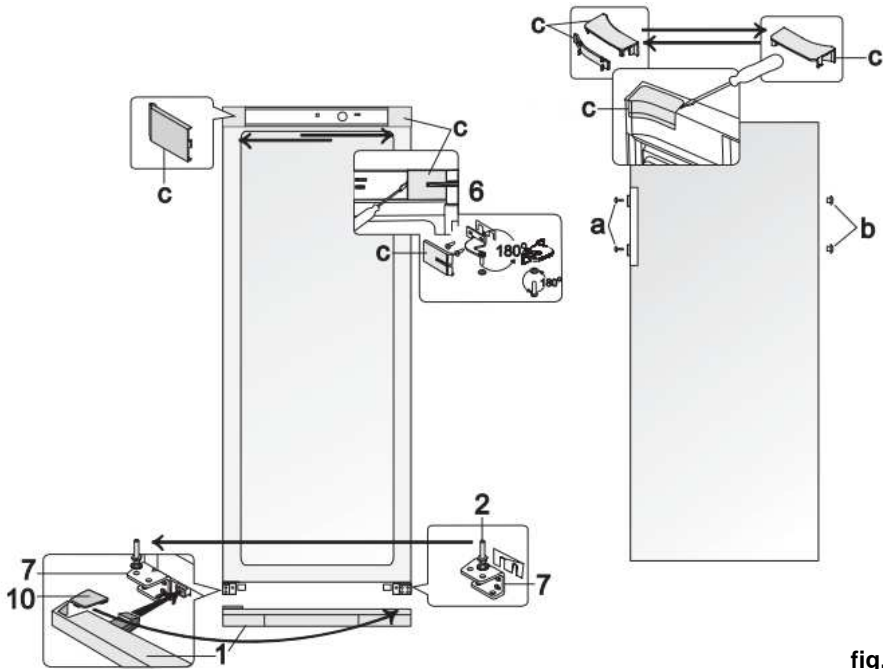

fig. 8
Refrigerator for bottles 700272 (fig. 8)
1. Remove the plugs (c) from the housing and door side, remove the upper bracket (6) with the washers and plastic seal under the handle.
3. Remove the lower masking strip (1).
4. Unscrew the supporting pin (2) from the lower bracket (7). Screw it with all washers to the opposite bracket (7), symmetrically to the previous position (fig. 8).
5. Fix the door on the supporting pin (2) of the bracket (7).
6. Rotate the bracket (6) with the supporting pin, placed washers and plastic seal by 180°. Unscrew the supporting pin with the washers and screw it on the opposite side of the bracket. Place the bracket (6) in the refrigerator door and screw them to the holes on the opposite side of the refrigerator.
9. Remove the plug (10) of the lower cover (1) and place it in the guides on the other side of the lower cover (1) (symmetrically to the previous position). Fix the left and right foot of the lower cover (1) in the holes (fig. 8) and slide the cover until it catches.